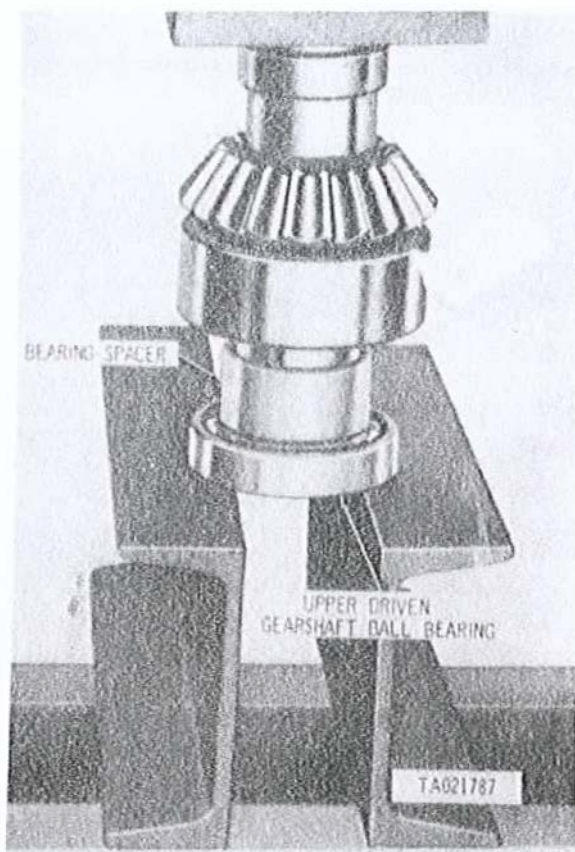

Figure 3-226. Pressing fan driven gearshaft into upper gearshaft ball bearing.
(3) Position bearing spacer (fig. 3-226) on fan driven gearshaft and start upper gearshaft ball bearing on gearshaft and press gearshaft into ball bearing. Secure upper gearshaft bearing on fan driven gearshaft with retaining ring (10, fig. 3-216).